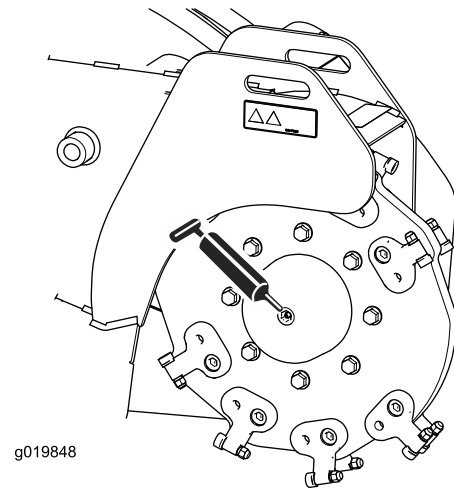
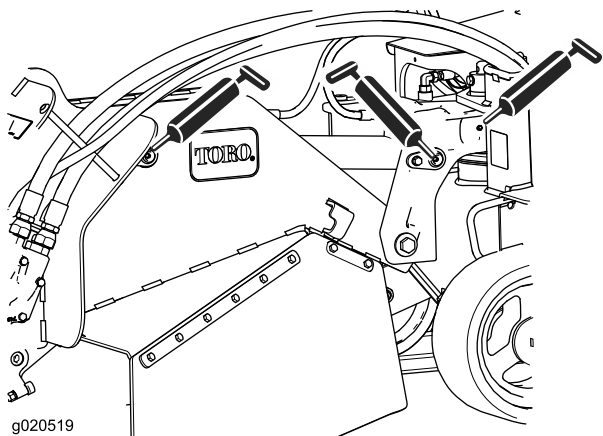

Figure 26
Figure 28
4. Connect a grease gun to each fitting (Figure 26 through Figure 28).